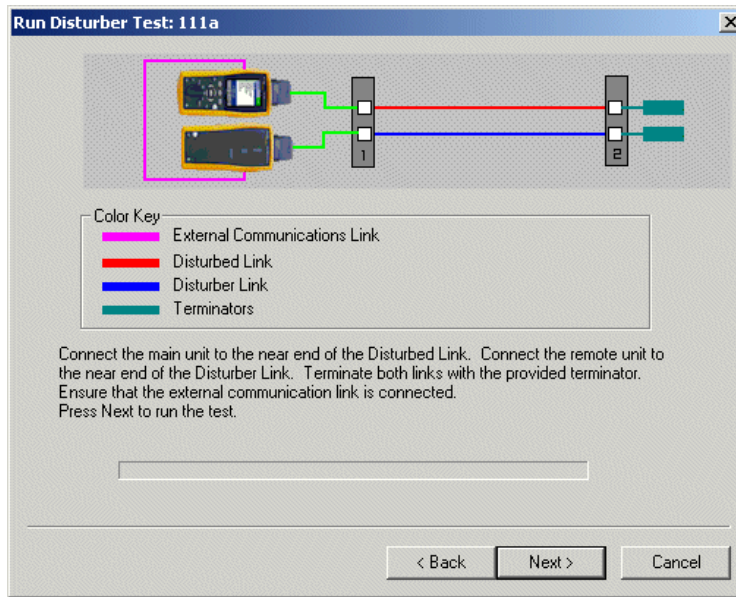

Figure 2-2. Run PS ANEXT Disturber Test
- 6 In the PS ANEXT Disturber Link Test dialog, select any disturber from the list of possible disturbers within the cable bundle and links that have positions on patch panels that are adjacent to the position of the disturbed link. Click **Next**. The Run Disturber Test window is displayed (see Figure 2-2).